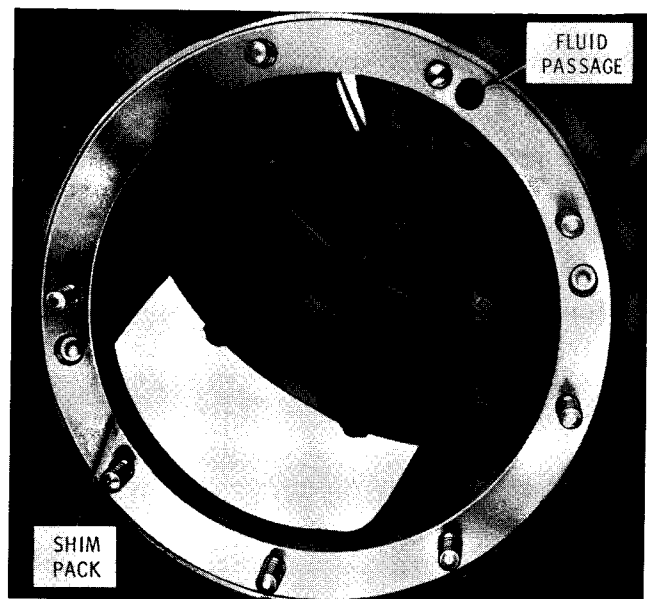
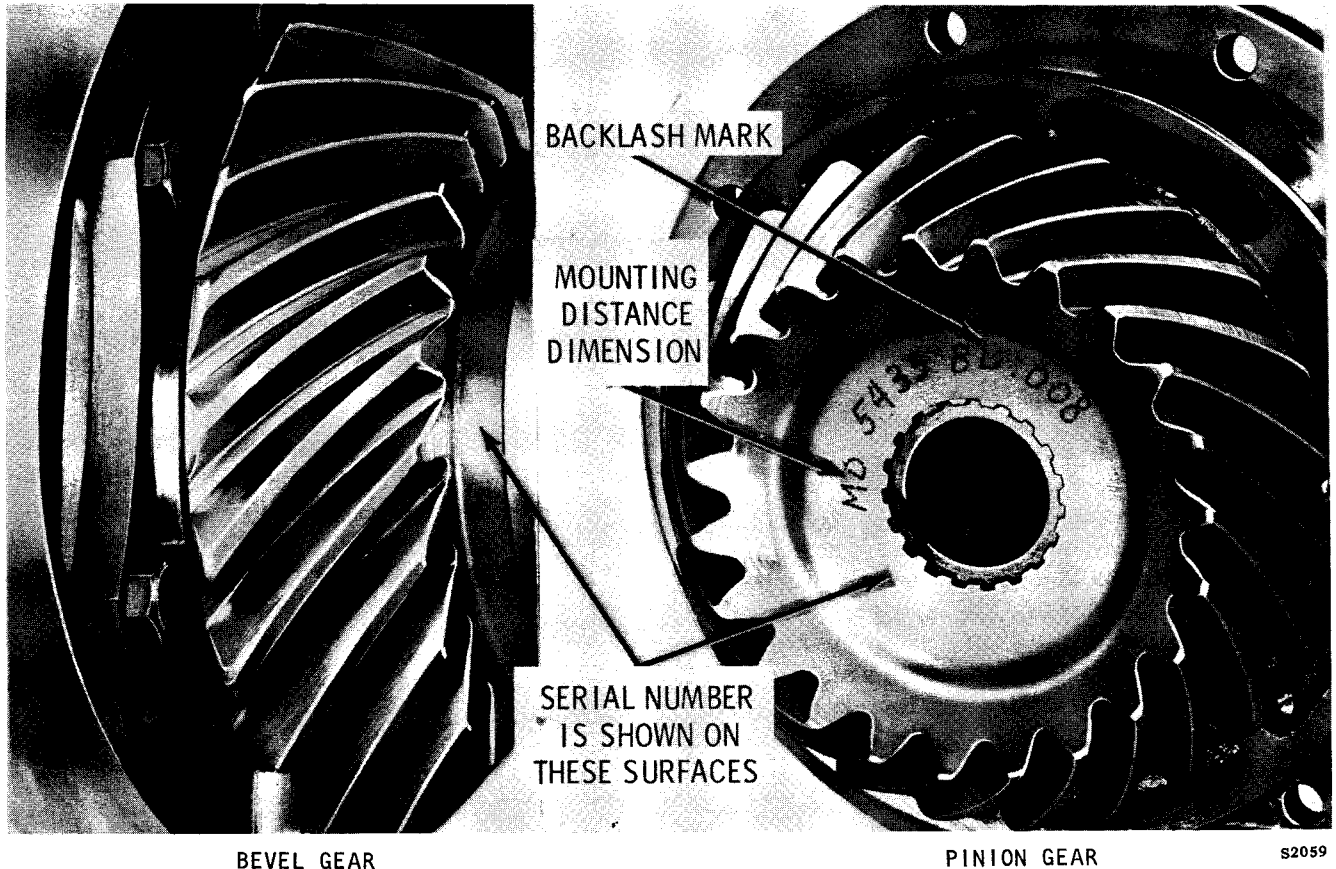
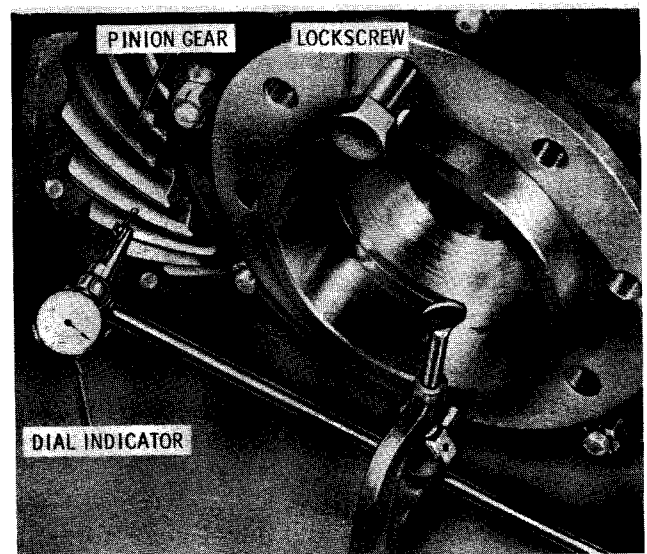

Fig. 7-2. Bevel pinion shims installed
Fig. 7-3. Dimension markings on bevel gears
Fig. 7-4. Checking backlash with dial indicator
(1) On earlier transmissions, install shims 1 (A, foldout 10) that were removed at disassembly on the studs in the main housing.
(2) On later transmissions, place the shims on bearing retainer 19 of the bevel drive gear assembly, with holes of the shims alined with the holes in the bearing retainer.
Note: When installing the shims in (1) or (2), above, make sure the fluid passage is open (fig. 7-2).
(3) Install the bevel drive gear assembly (items 7 through 11, 13 and 15 through 27, A, foldout 10) into the heated housing and seat it in the housing. On earlier transmissions, studs retain the assembly. On later transmissions, bolts are used.
(4) On earlier transmissions, install eight 3/8-24, self-locking nuts 12 on the studs in the main housing. Tighten the nuts to 25 to 30 pound feet torque.
(5) On later transmissions, install eight 3/8-16 x 1 1/4-inch, self-locking bolts 39 to retain the assembly in the main housing. Tighten the bolts to 36 to 43 pound feet torque.
(1) Adjust backlash to the dimension shown on the pinion gear (fig. 7-3) as follows. On the VH series, temporarily install two 1/2-20 x 3 (approximately) long bolts through the bevel gear sleeve flange to lock the bevel driven gear (fig. 7-4). On the VS series, attach a bar or other suitable object to the housing and lock it in the splines of bevel gear sleeve 45 (B, foldout 9).
(2) Mount the dial indicator on the bolt, as shown in figure 7-4 (or the bar on the VS2) to check gear backlash. If the dimension marked on the gear is not legible, adjust backlash to 0.008-0.012 inch for the 1.04 ratio and 0.007-0.011 inch for the 0.875 ratio. Adjustment can be accomplished through shim packs provided between bevel (pinion) gear bearing retainer (fig. 7-2) and main housing. In each instance, the average shim pack amounts to approximately 0.070 inch. Shims provided are 0.003 inch and 0.010 inch thickness.
(3) To check for proper tooth contact, paint several teeth on the input pinion gear with a mixture of red lead or similar mark-